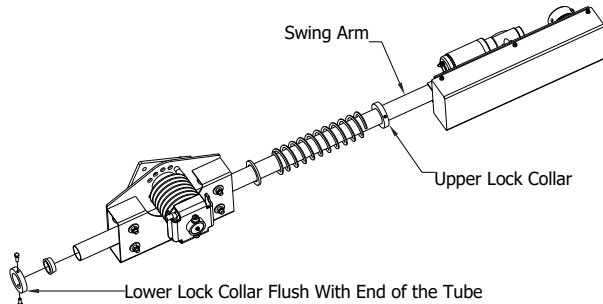

Figure 7.1
2. Slide the power cable and front swing-arm through the rollers of the front pivot box assembly. Refer to **Figure 7.1**. Slide another lock collar over the power cable and onto the front swing-arm and tighten the 5/16" x 1" bolt into the hole in the tube and tighten the second bolt against the tube.